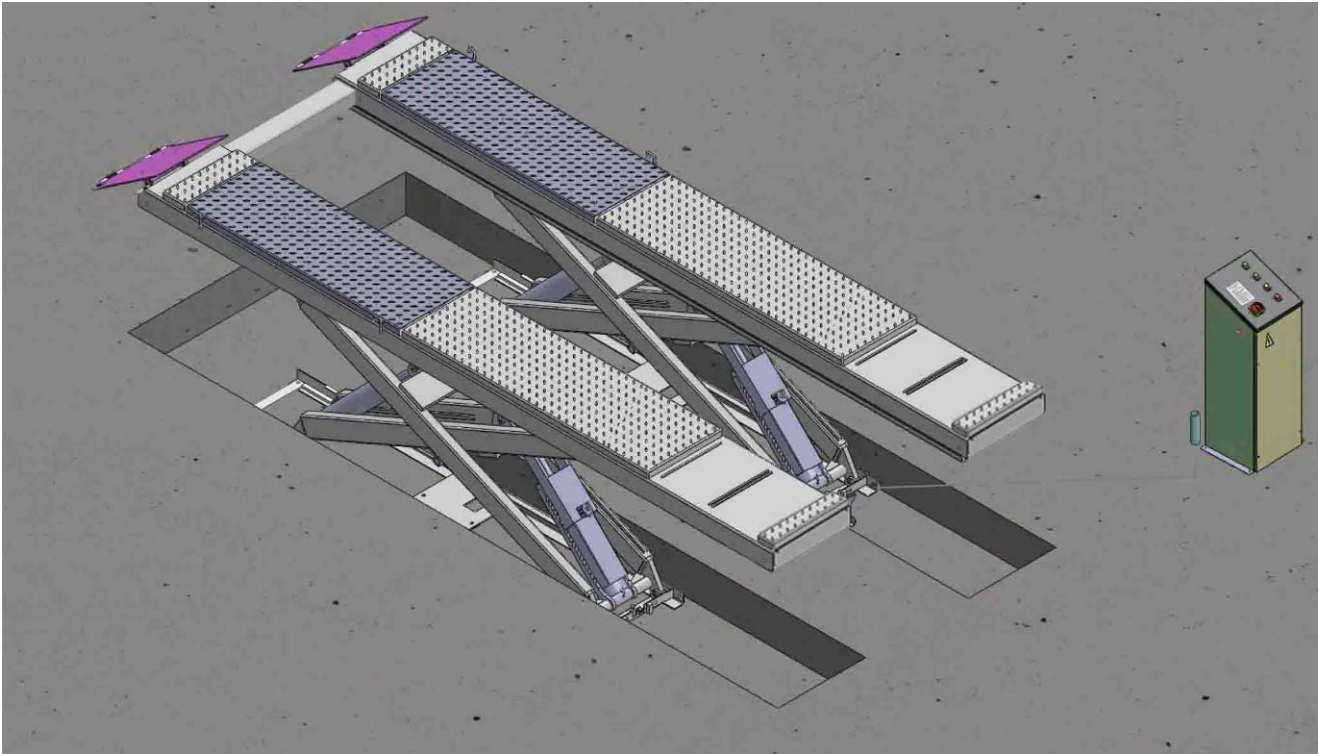

Fig. 9
2.3 Illustration of scissors lift **TLX12A** with flush mount installation (**Fig.9**).